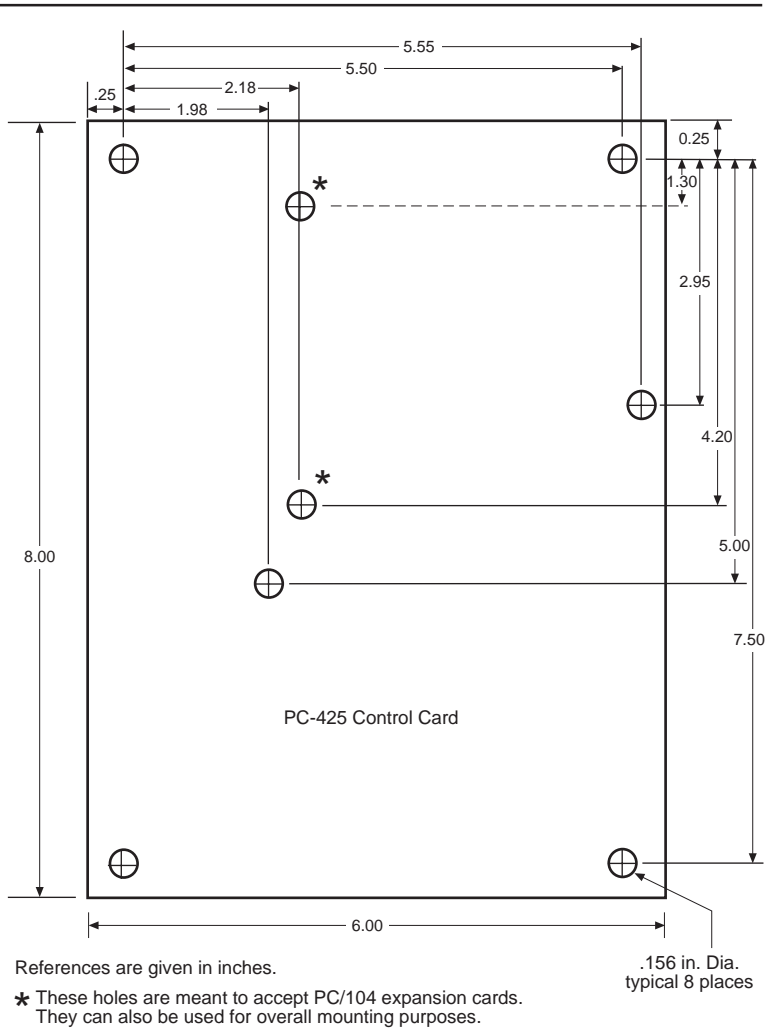

Figure 2-2—PC-425 Center to Center Hole Dimensions
1. Use #6-32 standoffs and screws to bolt down the PC-425. Figure 2-2 shows the center to center mounting hole dimensions.